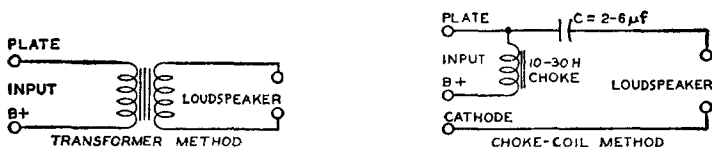

Fig. 76
Output-coupling devices are of two types, (1) choke-capacitor and (2) transformer. The choke-capacitor type includes an iron-core choke with an inductance of not less than 10 henrys which is placed in series with the plate and B-supply. The choke offers a very low resistance to the dc plate current component of the signal voltage but opposes the flow of the fluctuating component. A bypass capacitor of 2 to 6 μf supplies a path to the speaker winding for the signal voltage. The transformer type is constructed with two separate windings, a primary and a secondary wound on an iron core. This construction permits designing each winding to meet the requirements of its position in the circuit. Typical arrangements of each type of coupling device are shown in Fig. 76. Examples of transformers for push-pull stages are shown in several of the circuits given in the CIRCUIT SECTION.